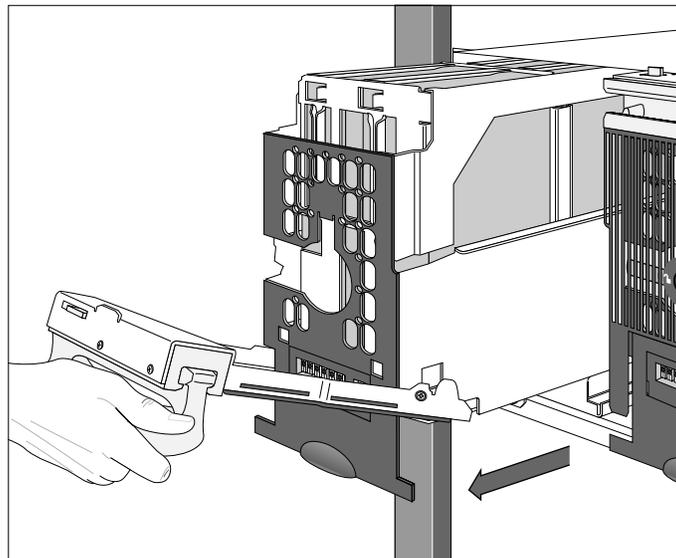

Figure 13. Removing an HDDA drive drawer
9. Pull the handle down and slide the drawer out part way, as shown in Figure 13.